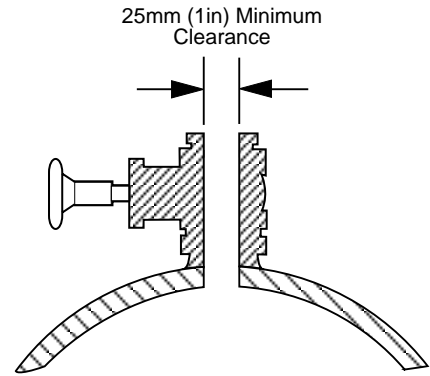

Fig. 3.10 Insertion Bore Clearance
3.5 Installing the AquaProbe – Figs. 3.10 and 3.11